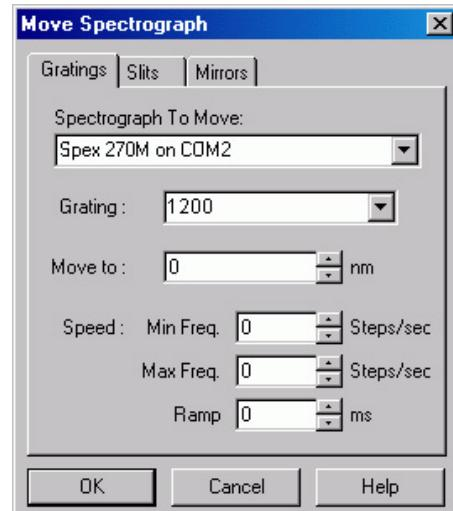

Figure 26. *Move Spectrograph* **Gratings** tab page
**Gratings** tab page, the next step is to select and move the grating. These operations are performed using the **Gratings** tab page (Figure 26) of the Move Spectrograph dialog. The procedure follows.